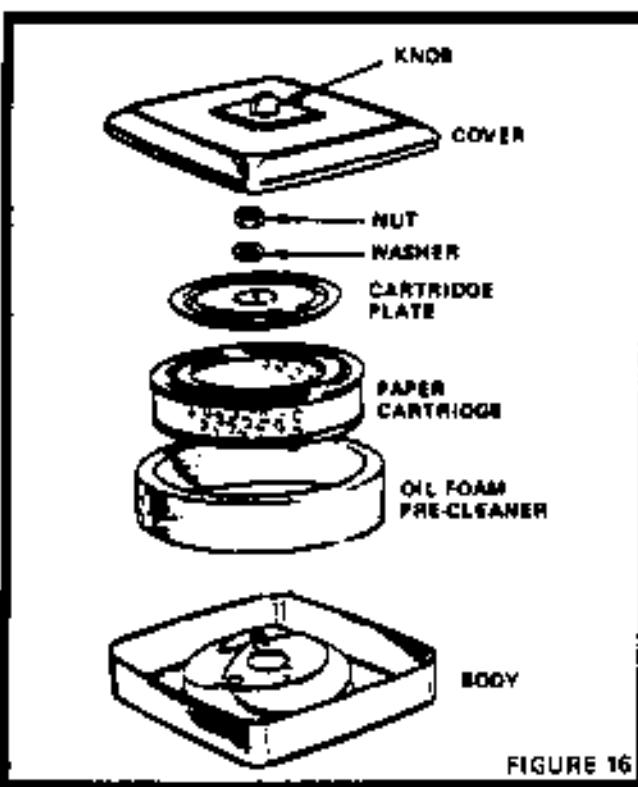

FIGURE 16
- Unscrew Knob (Fig. 16) to remove Cover